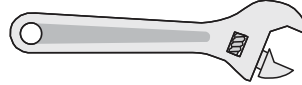

Fig. 1
- Adjustable wrench or channel lock pliers (Fig. 1).